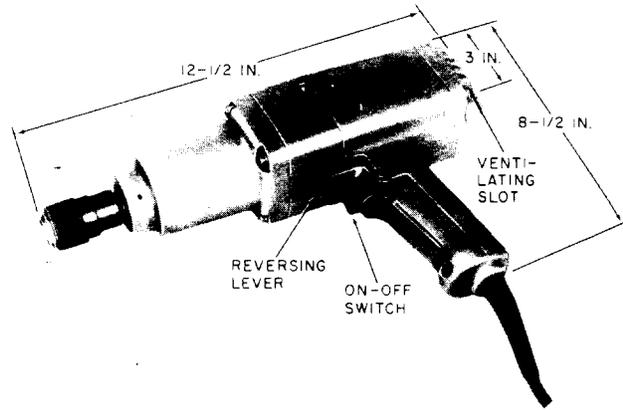

Fig. 3—C Impact Wrench With Reversing Switch Over Trigger
2.03 The C impact wrench (Fig. 3) is a double insulated electric tool having a housing and handle made of high impact plastic. The gear case may be made of metal. It is a commercial, 115 volt ac-dc, reversible, heavy duty, 1/2-inch capacity electric wrench that develops about 288 foot/pounds of torque. It is equipped with a nonlocking trigger, yellow jacketed 2-conductor cord approximately 6 feet long, and a 7/16-inch hexagonal quick-change chuck.